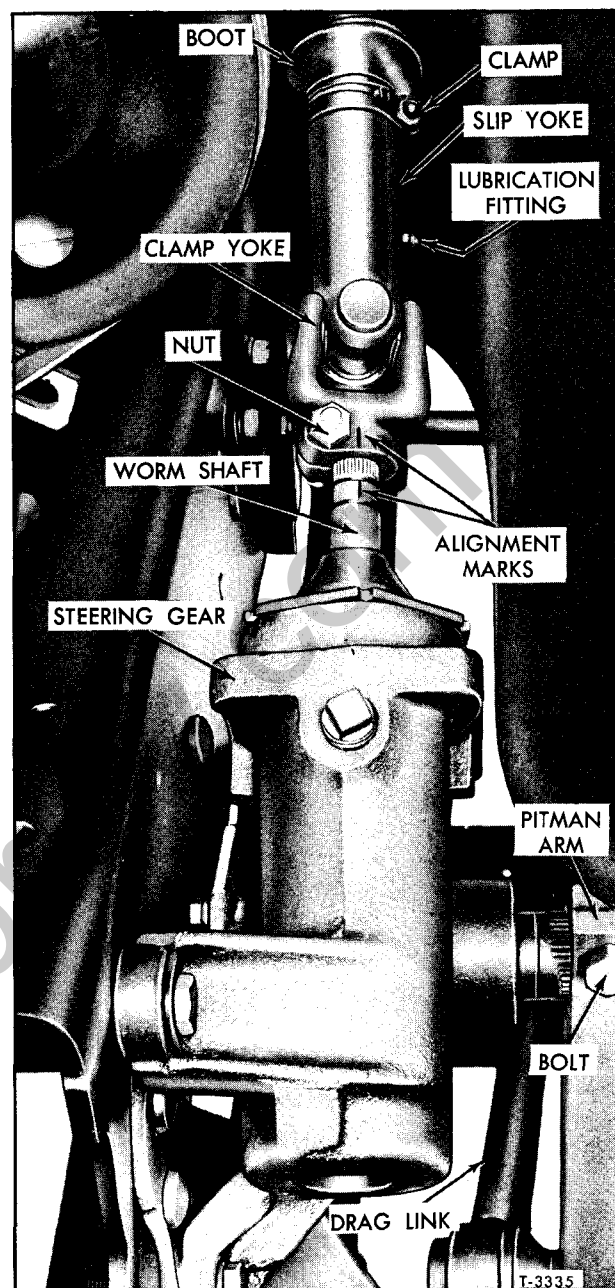

Figure 17—Steering Gear and Intermediate Shaft Installed (Conv. Cab Models) (Typical)
3. Mark clamp yoke and steering gear worm shaft to ensure installation in the same relative position (fig. 17).